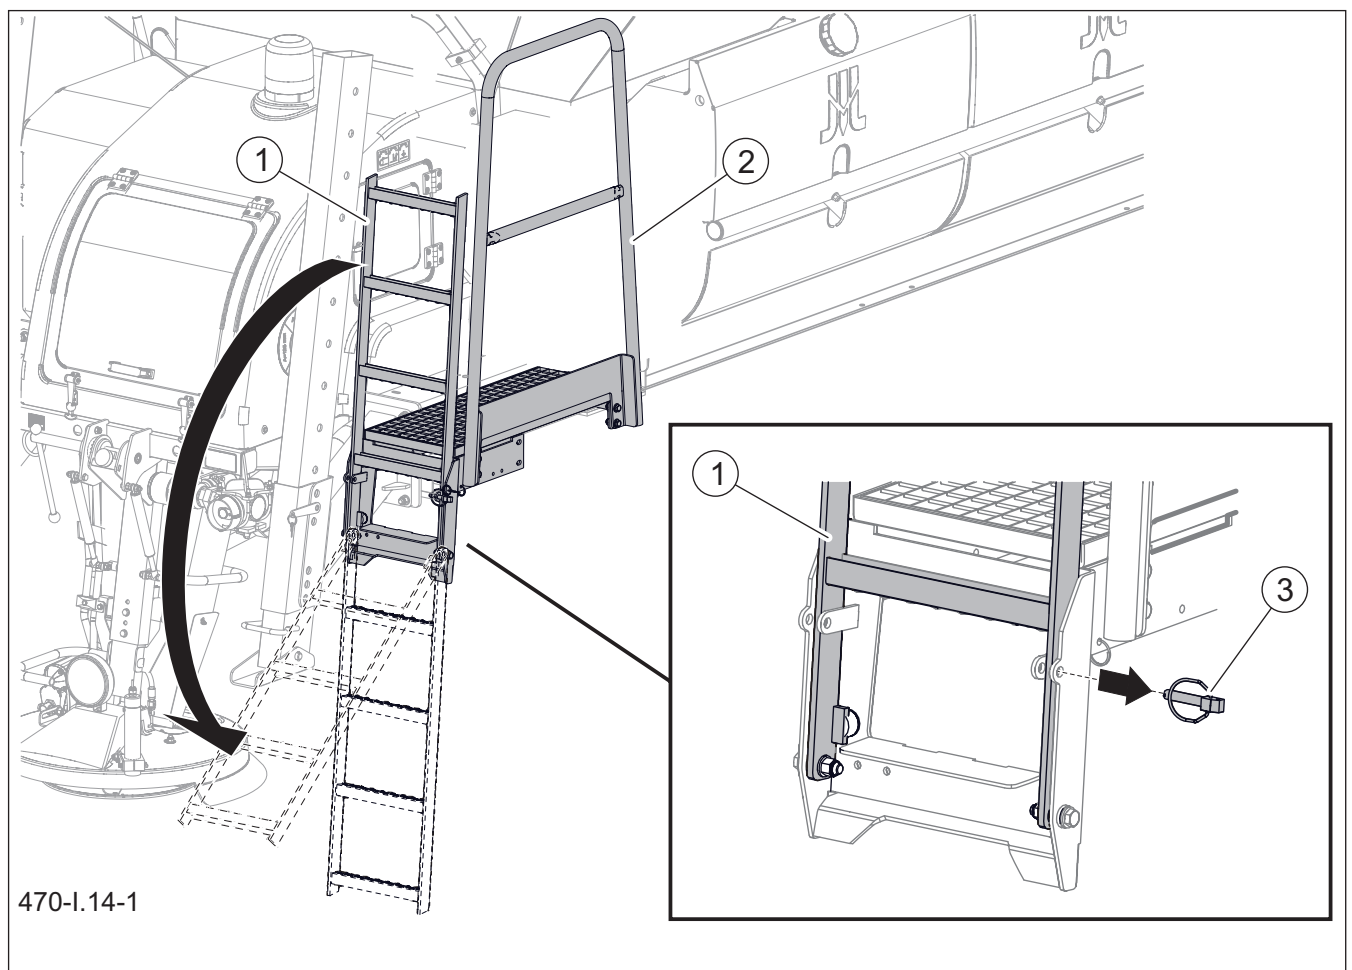

Figure 5.14 Ladder and platform
The platform (2) fitted with ladder (1) (Figure 5.14) facilitates raising and lowering the tarpaulin cover.
To lower the ladder (Figure 5.14):